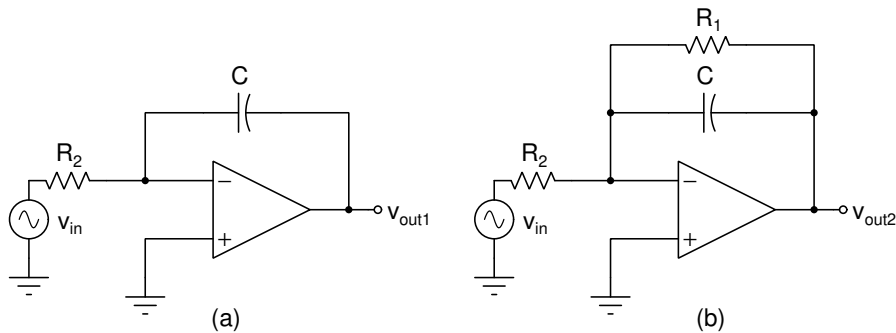

Figure 29
Connect the circuit as shown in Fig. 29(a). $R_1 = 10\text{ k}\Omega$, $R_2 = 1\text{ k}\Omega$, $v_{in} = 0\text{ V}$ (DC) $C = 10\text{ nF}$.
- Now connect the circuit as shown in Fig. 29(b) and measure voltage at v_{out2} using the oscilloscope. Does it get saturated? If not then what is the reason. (Hint: At steady state ($t = \infty$), gain for DC-offset is $1 + R_1/R_2$.)
- In Fig. 29(b), apply a square wave at v_{in} with voltage levels of 0 (low) and 500 mV (high) and frequency of 50 kHz. Plot v_{out2} and v_{in} . Do you observe integrator action? Comment.